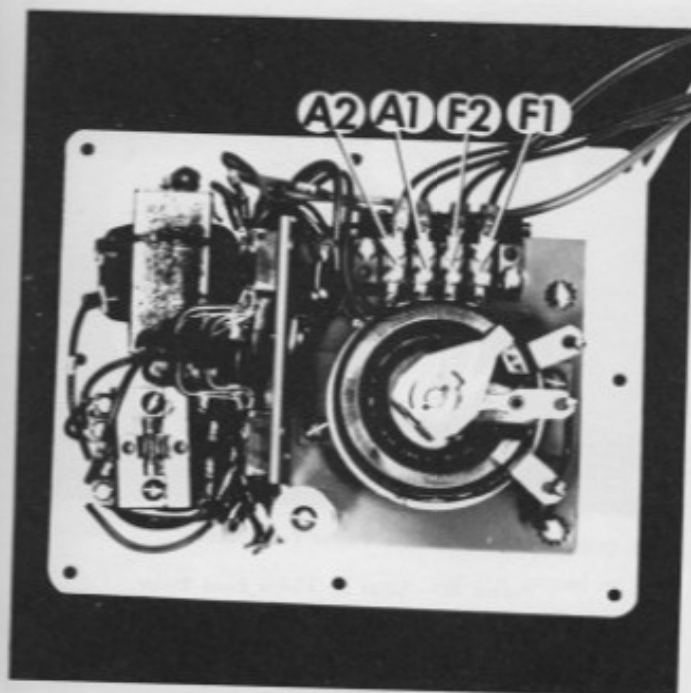

Figure 44 — Power Feed Control Panel
2. Remove four wires F1, F2, A1 and A2, Figure 44.